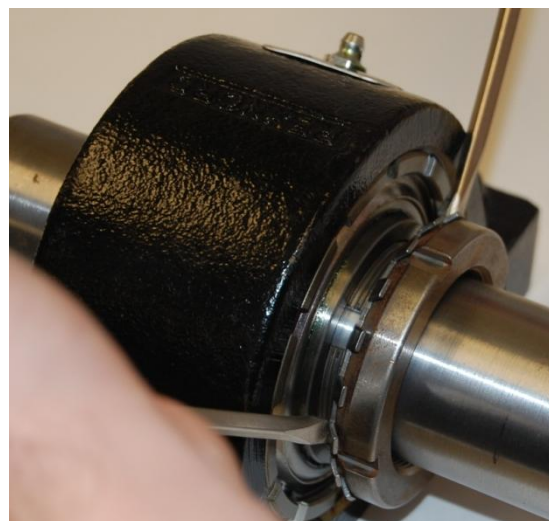

Figure 2) Zero Shaft Fit – Pry against housing to draw adapter sleeve through bearing. Sleeve should not be protruding out the backside of the inner ring.
- a) **Zero Shaft Fit-** Take a large flat blade screw driver to wedge between the bearing's face and lockwasher. Use the screwdriver to draw the bearing's sleeve through the inner ring until you achieve a snug fit and then finger tighten the locknut (See Figure 2). Use a spanner wrench to bring the locknut to a snug fit. This zero's out the clearance between bore & shaft.